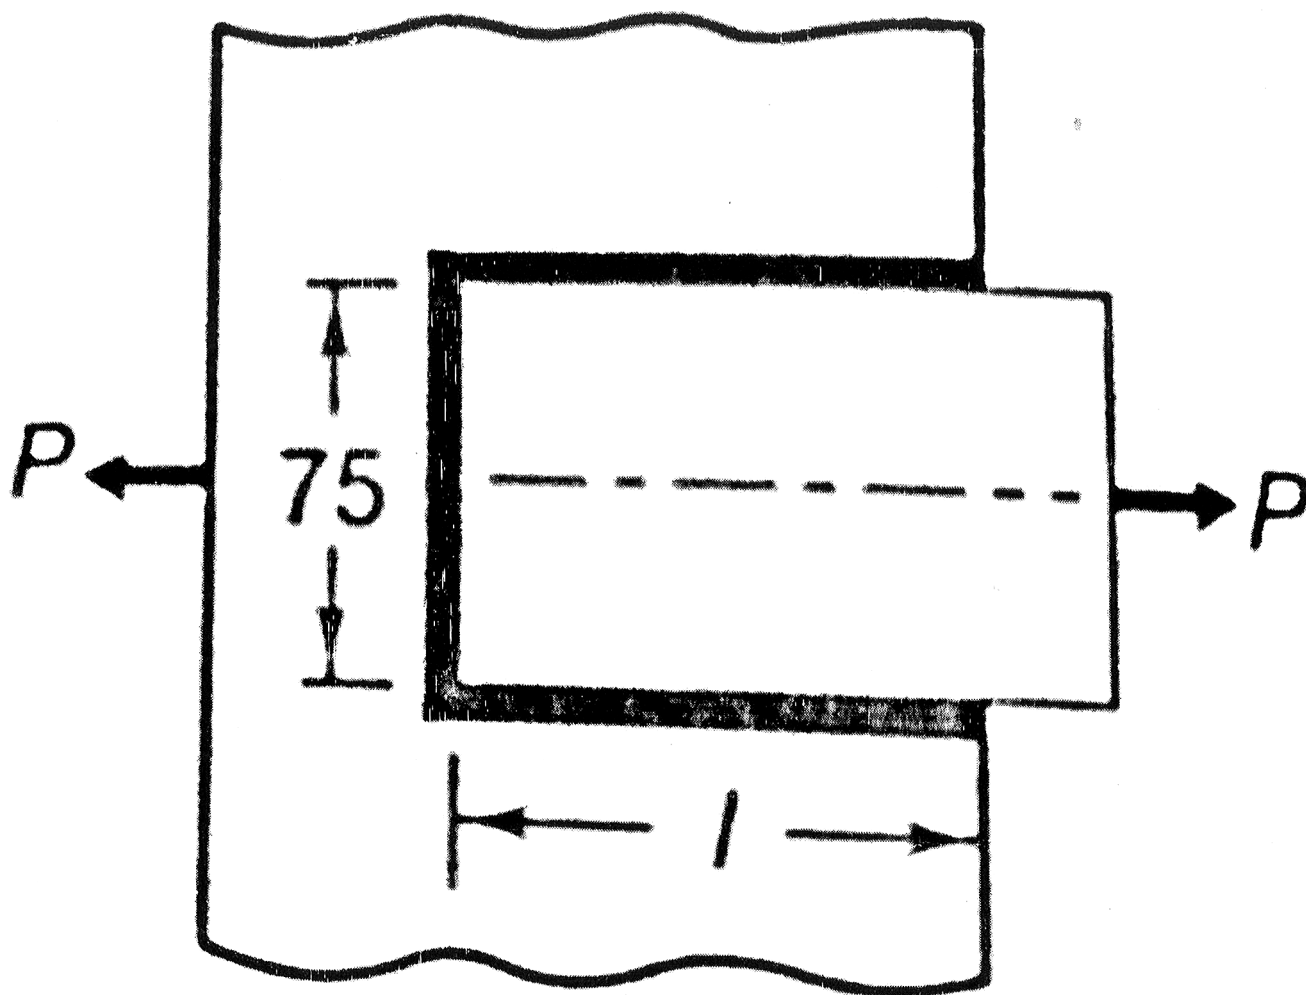

Fig. 4
shown in Fig. 4. The joint is subjected to a maximum tensile force of 55 kN. The permissible tensile and shear stresses in the weld material are 70 and 50 N/mm², respectively. Determine the required length of each parallel fillet weld. (20)